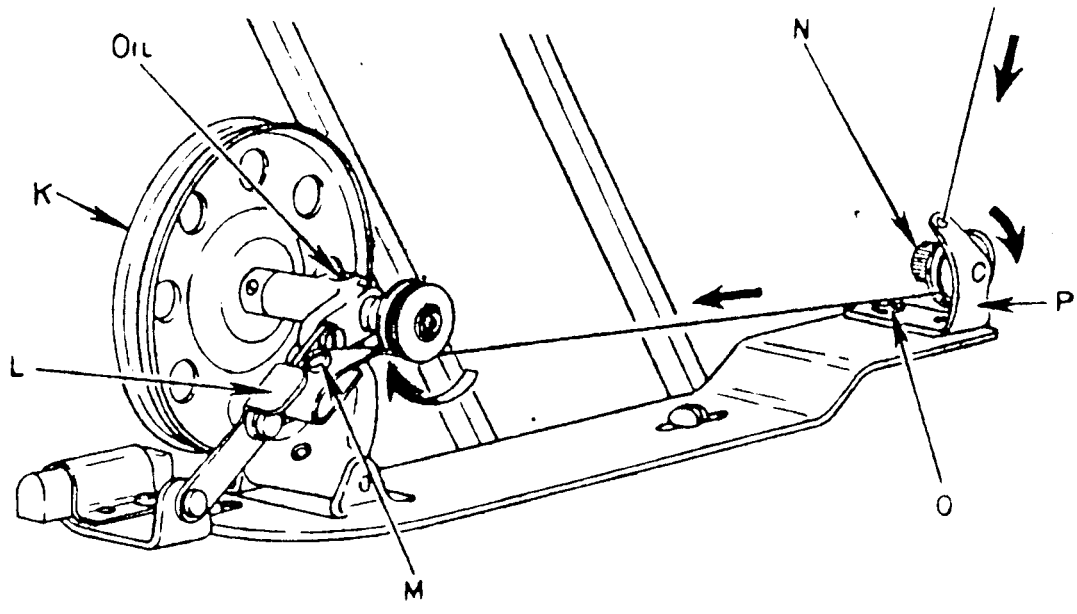

Fig. 4
Fasten the bobbin winder to the table with its driving pulley in front of the machine belt (see Fig. 4), so that bobbin winder driving pulley (K) will make firm contact with the machine belt when the thumb latch (L) is pressed down and the pulley will be released from contact with the belt when sufficient thread has been wound upon the bobbin.
Place the bobbin on the spindle, pushing it on as far as it will go and pass thread through threading points, as shown in Fig. 4.
Wind end of thread around the bobbin a few times. Press down on the thumb latch (L), pushing the driving pulley (K) over against the belt, as shown in Fig. 4. Start machine.
When winding a bobbin with fine thread, a light tension should be used. Adjust the knurled nut (N, Fig. 4), to regulate the tension.
Note: Occasionally apply a few drops of oil to the oil well, shown in Fig. 4, on top of the bobbin winder frame.